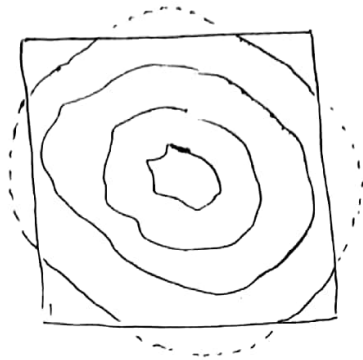

Fig 4. Contour closing within & outside the map.
4. Contour lines always form a closed circuit. But these lines may be within or outside the limits of the map. (Ref. fig 4)